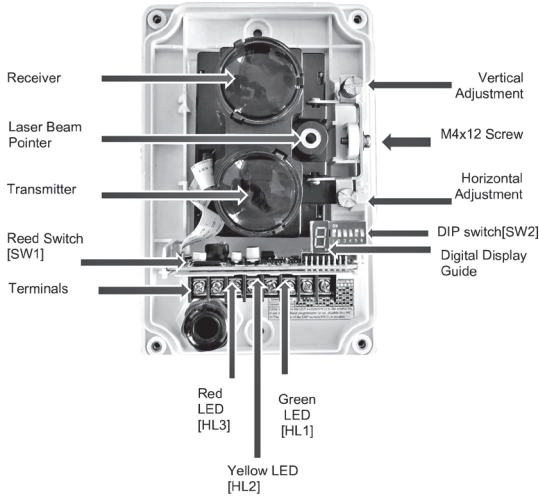

Figure 8. Names and Location
- B. Once you have located the mark, loosen the M4x12 screw and adjust the horizontal or vertical adjustment wheel until the Laser is pointing at centre of the reflector. Refer to figure 8.